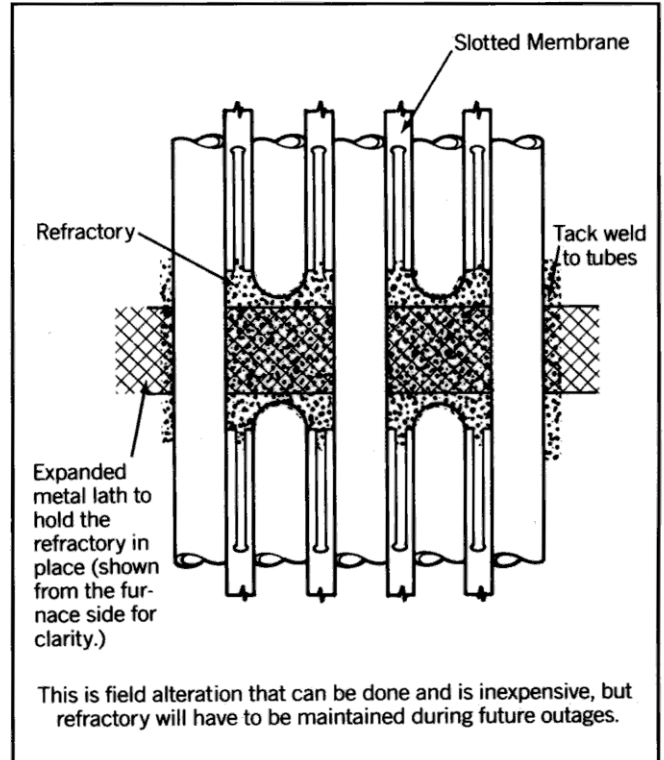

Figure 3 Repair of old design viewed from furnace.
1. Figure 3 shows a repair used for units with relatively minor cracking problems. The existing stud plates are not replaced but they are trimmed to within 1/4" of the tube surface to prevent additional stud plate cracking. Some tube section replacement may be required in areas that exhibit minor cracking. The membrane bar terminations should be inspected and modified, if necessary, to make sure that the membrane-to-tube welds wrap around the ends of the membrane bars and that the weld terminates on the membrane bar. Refractory seals supported by stainless steel expanded metal lath are installed to close the openings in the existing burned back and slotted stud plate. This repair has proven to be effective, but refractory maintenance will be required.